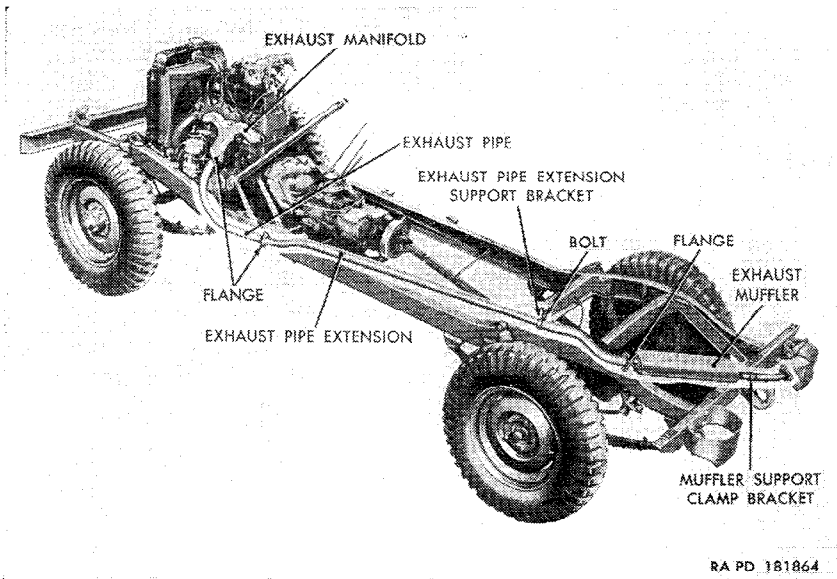
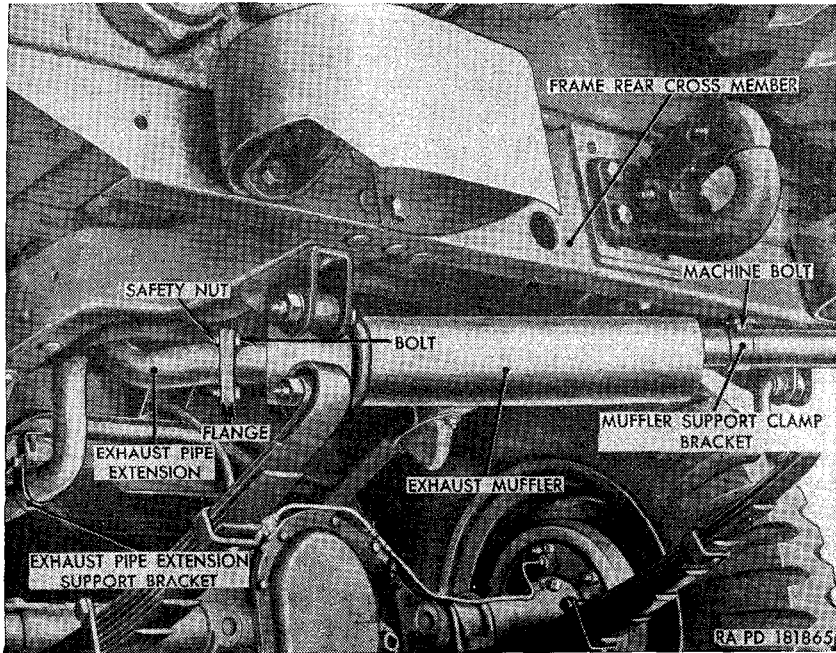

Figure 73. Exhaust system.
Figure 74. Exhaust muffer with bracket assembly—installed.
The exhaust system (fig. 73) includes the exhaust muffler, the exhaust pipe extension, and the exhaust pipe. The system is supported at three points—the exhaust pipe is secured to the exhaust manifold of the engine; the exhaust pipe extension is secured to the frame by a bracket and spacer; and the muffler is secured to the frame by a muffler support clamp bracket around the tail pipe of the muffler assembly.
(fig. 74)
- (1) Remove the three nuts and bolts securing the exhaust pipe extension to the exhaust pipe (fig. 73).
- (2) Remove the three nuts and bolts securing the exhaust pipe extension to the exhaust muffer (fig. 74).
- (3) Loosen the bolt securing the muffler support clamp bracket to the frame rear cross member and slide the muffler back about one inch.
- (4) While supporting the exhaust pipe extension, remove the nut, washer, spacer, and bolt securing the exhaust pipe extension support bracket to the frame cross member.
- (5) Separate the front flange of the exhaust pipe extension from the rear flange of the exhaust pipe, and remove exhaust pipe extension with bracket. Separate and discard gasket from both flanges.
- (1) Clean the flange gasket surfaces. Loosen the nut and bolt in the clamp at the exhaust pipe extension support bracket (fig. 74). Place the exhaust pipe extension in approximate position under the vehicle with the offset end toward the exhaust muffler (fig. 73).
- (2) Insert a $\frac{5}{16} \times 1\frac{1}{2}$ machine bolt through the bracket (fig. 74) hole and slip the exhaust pipe extension spacer over the bolt. Raise the exhaust pipe extension with bracket into position with the bolt end inserted into the frame cross member hole. Place a $1\frac{1}{32}$ ID \times $1\frac{1}{16}$ OD washer over the bolt and screw a $2\frac{5}{16}$ -inch nut on the threads enough to support the exhaust pipe extension weight.
- (3) Place a new gasket on the front flange of the exhaust pipe extension (fig. 73) and insert three $\frac{5}{16} \times 1$ bolts through the exhaust pipe flange, gasket, and exhaust pipe extension flange. Start three $\frac{5}{16}$ -inch nuts on the three bolts, but do not tighten.
- (4) Place a new gasket on the flange of the exhaust muffler (fig. 74). Pull the muffler forward and insert three $\frac{5}{16} \times 1$ bolts through the muffler flange, gaskets, and rear flange of the exhaust pipe extension. Start three $\frac{5}{16}$ -inch nuts on the bolts, but do not tighten.
- (5) Tighten the bolts and nuts securing the exhaust pipe extension to the exhaust pipe. Tighten the bolts and nuts securing the exhaust pipe extension to the exhaust muffler (fig. 73). Tighten the bolt securing the exhaust pipe extension support bracket to the frame cross member. Tighten the bolt and nut in the support bracket clamp. Tighten the bolt securing the muffler support clamp bracket (fig. 74) to the frame rear cross member.
- (6) Start engine and check all exhaust connections for leaks.
(fig. 73)